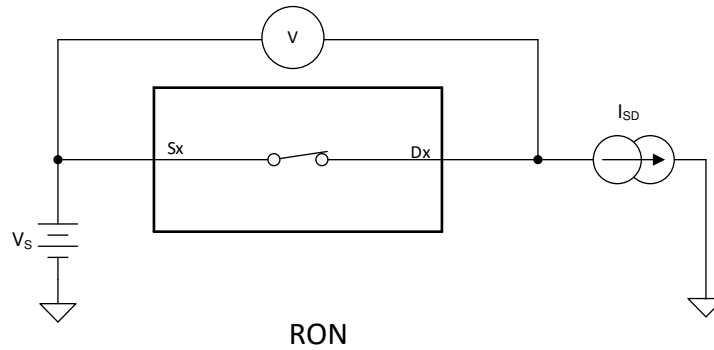

Figure 7-1. On-Resistance Measurement Setup
The on-resistance of a device is the ohmic resistance between the source (Sx) and drain (Dx) pins of the device. The on-resistance varies with input voltage and supply voltage. The symbol R_{ON} is used to denote on-resistance. Figure 7-1 shows the measurement setup used to measure R_{ON} . Voltage (V) and current (I_{SD}) are measured using this setup, and R_{ON} is computed with $R_{ON} = V / I_{SD}$: